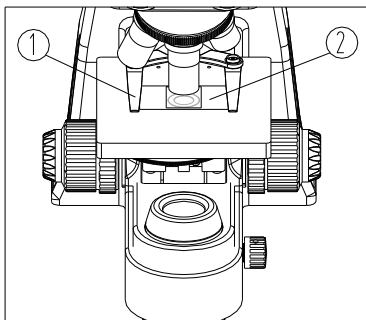

Fig. 8
1. Place the slide on the stage with the cover glass of slide② facing upwards and move the specimen to the center (aligned with the center of objective). Hold the slide in place using the slide-holder① (see Fig.8).